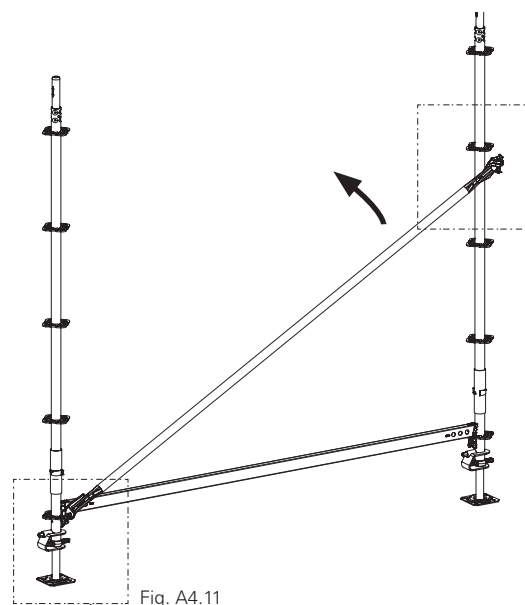

Fig. A4.11
3. Swivel brace to the base scaffold. (Fig. A4.11)